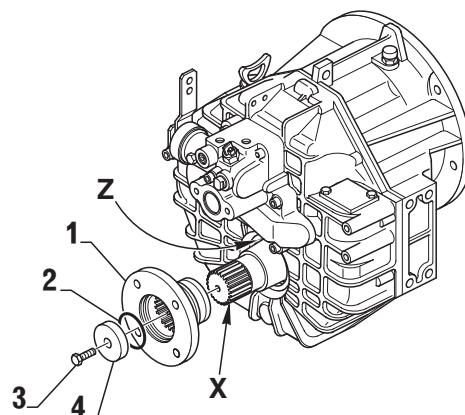

FIG. 8-1
Provide spline (X) of output shaft with a thin coat of Loc-tite 245 and sealing lip (Z) of shaft seal with a thin coat of ATF fluid. (Fig. 8-1)
Fit output flange (item 1, Fig. 8-1).
Provide O-ring (item 2, Fig. 8-1) with ATF fluid and insert into output flange.
Tight output flange down on output shaft with bolt (item 3, Fig 8-1) and washer (4).